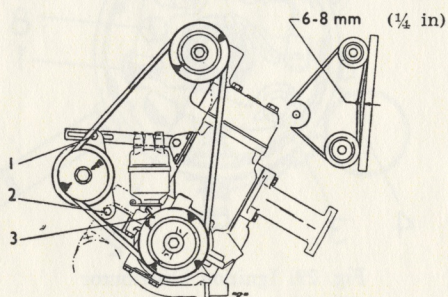

Fig. 28. Adjustment of Belt Tension
The generator is located to the right of the engine and is driven by a v-belt from the crankshaft pulley. To tighten the belt, loosen the bolts 1 and 2, fig. 28, and pull the generator outwards. The correct tension is attained when the belt can be pressed inwards about 6—8 mm ($\frac{1}{4}$ in.) on the longest run. See fig. 28. Do not overtighten the belt, since this will cause excessive load on the generator bearings and heavy belt wear. When the tension has been correctly adjusted, tighten the bolts 1 and 2.
1. With the distributor cap removed and the breaker points adjusted, turn the crankshaft until the index on the crankshaft pulley coincides with the crankcase index underneath the distributor, as shown in fig. 28. The piston in cylinder 2 is now in its top dead centre (T.D.C.).
by turning the rotor in reverse, i.e. counterclockwise. When the setting is correct, the points begin to open at 8° , or if a dial gauge is used, 0.5 mm (0.020 in.) before T.D.C. If a dial gauge is not available, the distance between the pulley index and the crankcase index fig. 28 may be measured. The distance measured on the pulley periphery, corresponding to 8° is about 10 mm (0.4 in.).